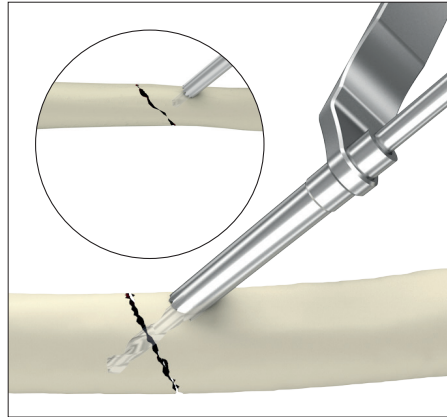
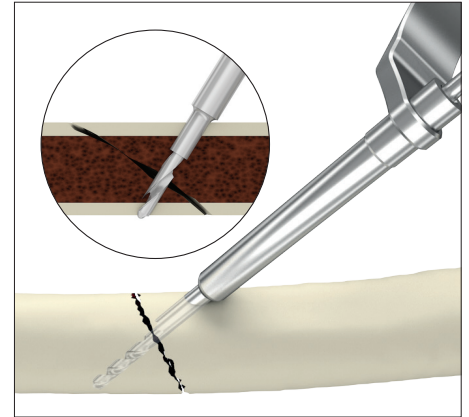

Fig. 20
Fig. 21
To seat the Ø4.5mm cortical screw or Ø6.0mm partially threaded cancellous screw in a lag function, over-drill the first cortex using the cortical opener Ø4.5mm (ref 700354) and the Ø4.5mm corresponding end of the double drill guide (ref 705037, fig. 20). Then insert the opposite Ø3.2mm end of the double drill guide into the pre-drilled hole. Drill through the second cortex using the Ø3.2mm drill bit (ref 705032, fig. 21).